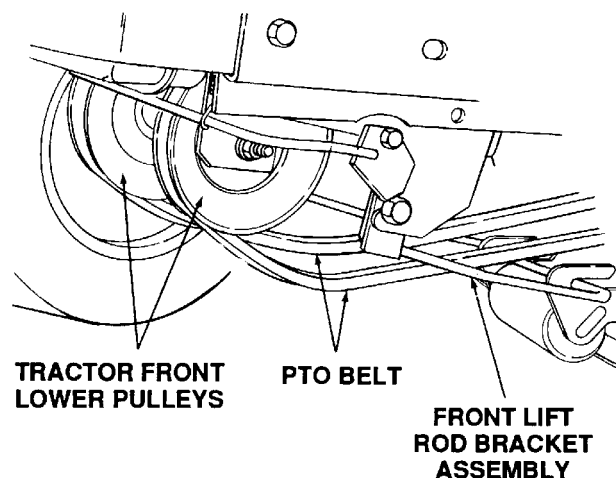

Figure 45
6. Pass the PTO belt downward, inside the tractor frame, until the belt is below the two tractor front lower pulleys and pull the belt clear of the tractor (See Figure 45).